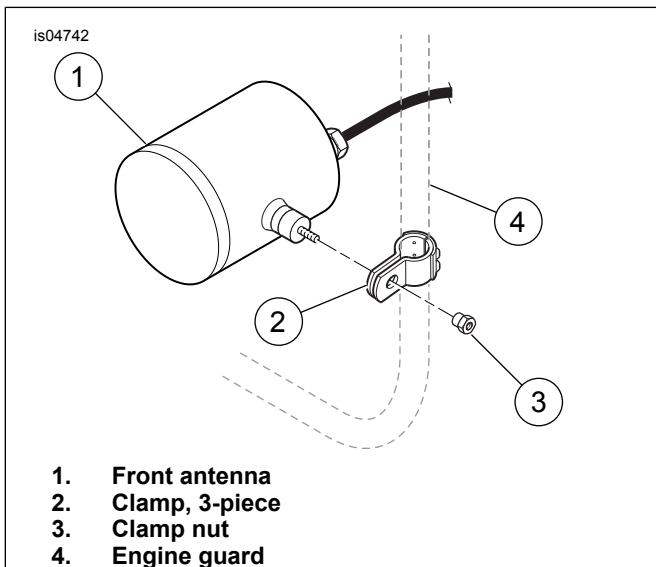

Figure 7. Front Antenna - Engine Guard Mount
1. See Figure 7. Remove the four button head screws that hold the 3-piece clamp (2) together. Install the clamp around the left-side engine guard (4) as shown, positioning the clamp on the straight, upright section of the guard.
3. Install the chrome antenna clamp nut (3) onto the threads of the antenna stud, and tighten securely.